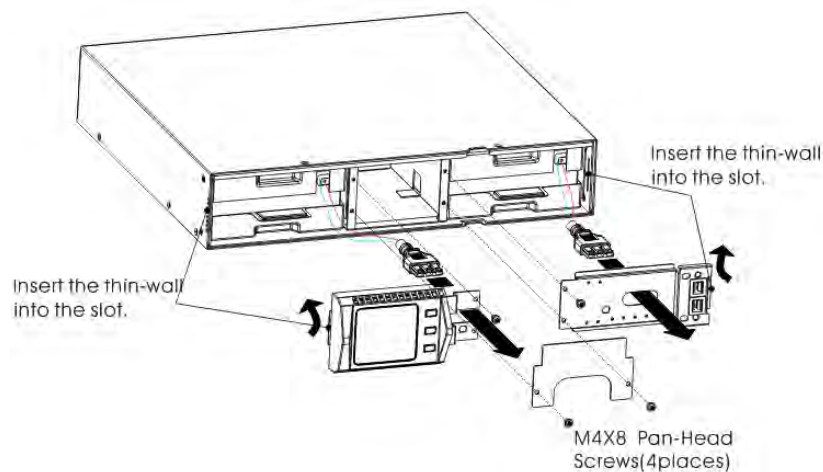

FIG.27 Installation for battery pack
5. Hold the middle of the new battery pack, insert it. Once install the new battery pack, make sure it is completely inserted into the chassis as fig 27 shown.